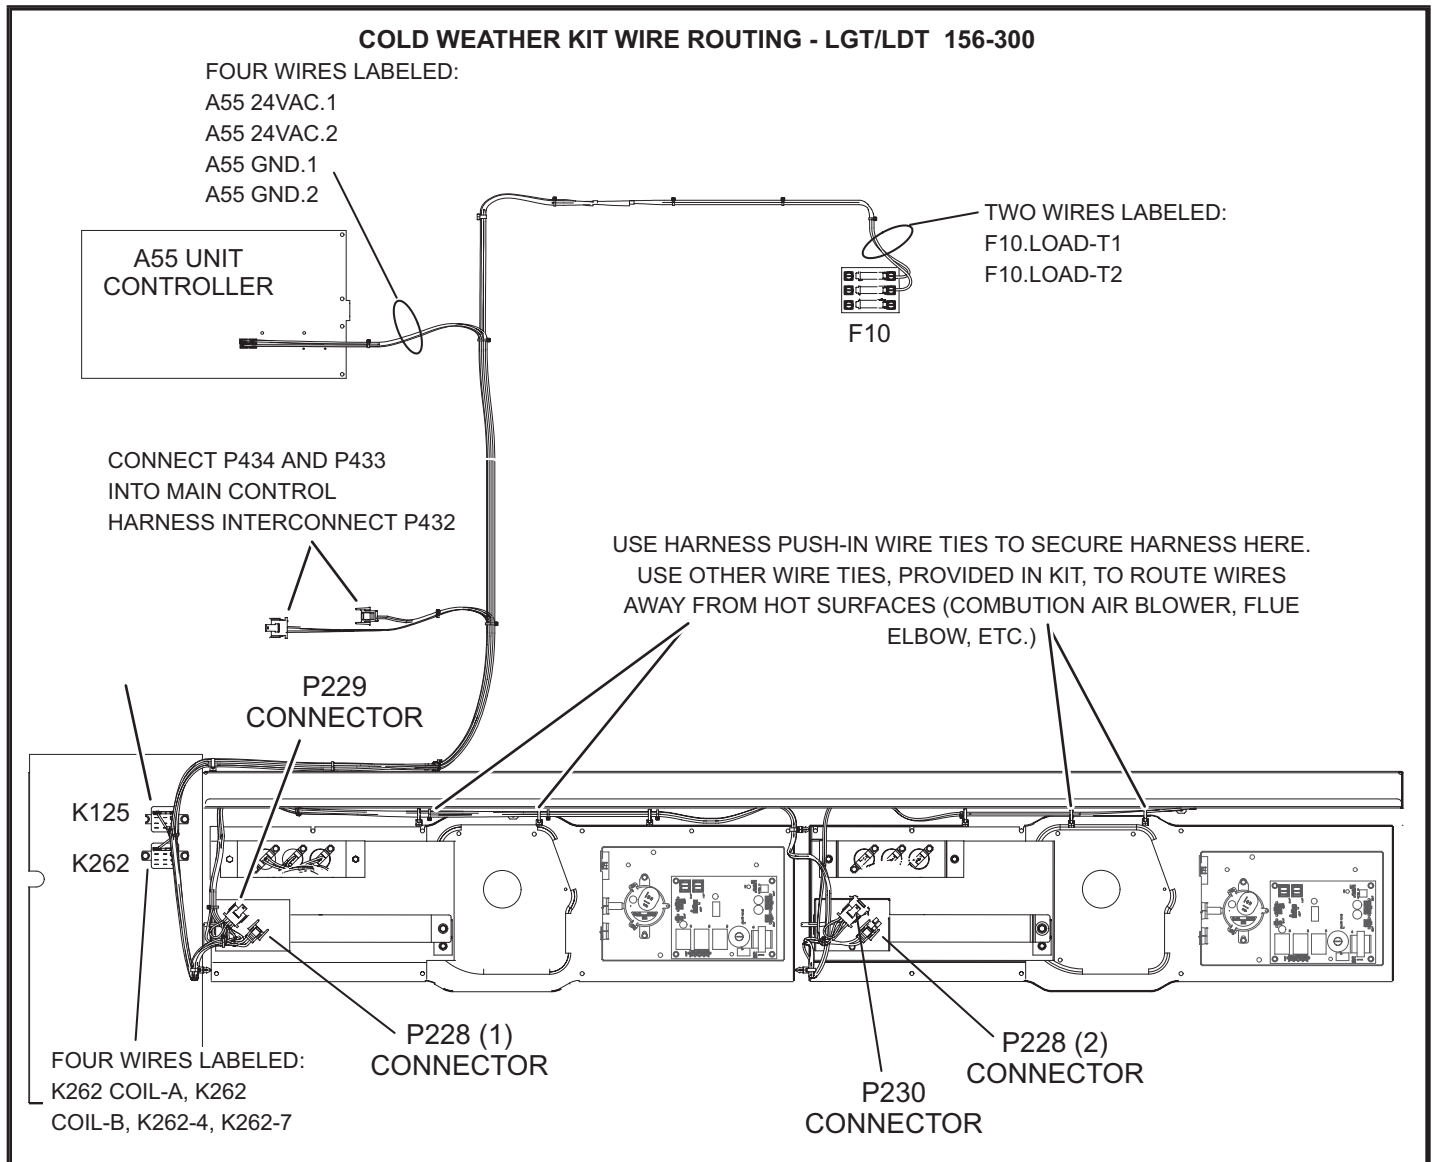

FIGURE 23
- 3 - Install both relays as shown in FIGURE 23. Secure with #8 screws.
- 4 - Locate harness labeled 108303-01. Route as shown in FIGURE 23. Secure with wire ties. Discard unused harnesses.
- 5 - Make wire connections as shown in FIGURE 23.